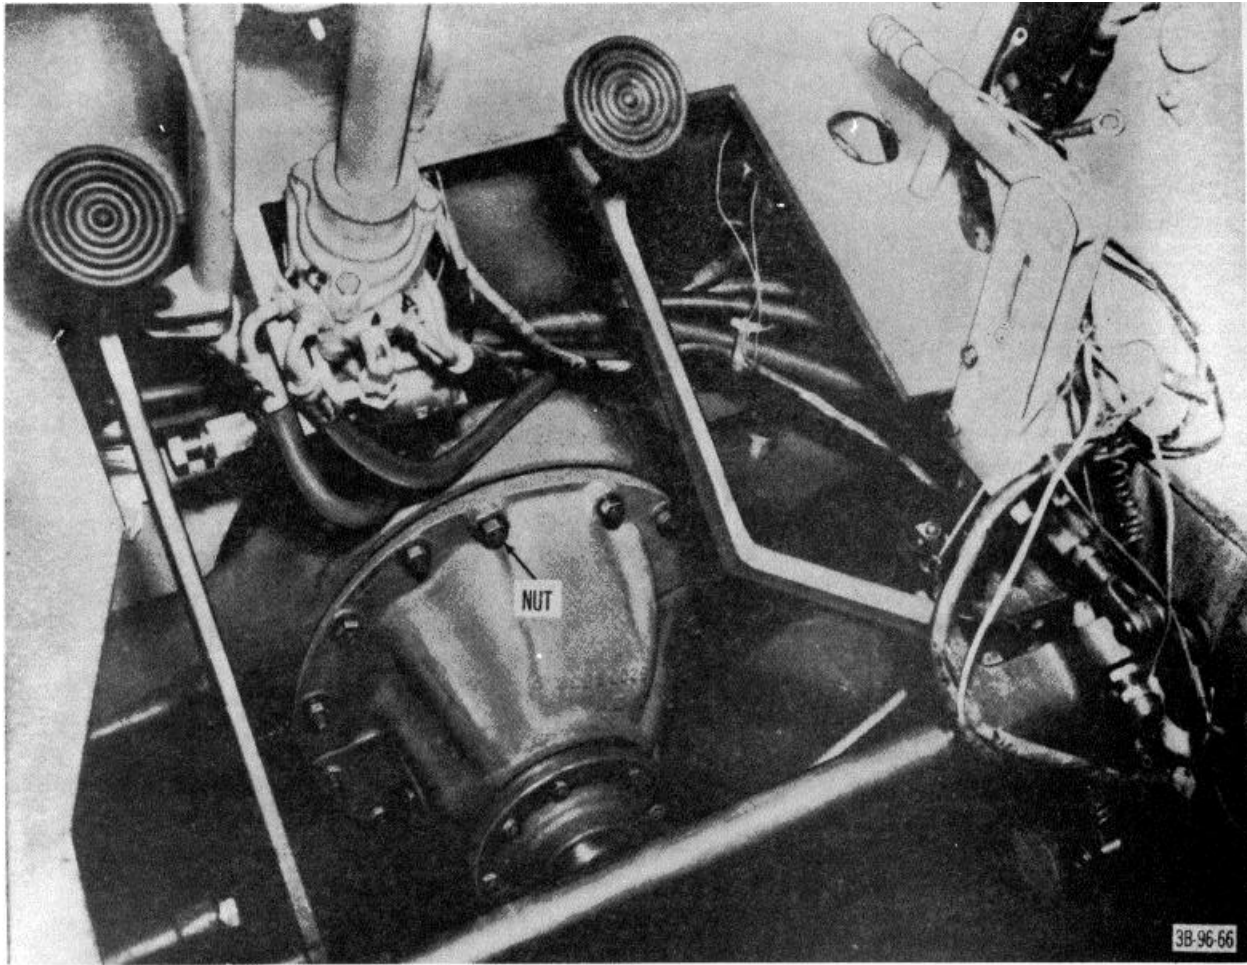

Figure 78. Drive axle and differential and carrier assembly, installed on truck.
- (1) Drain the differential.
- (2) Remove screws and lock plate and remove drive shaft from the truck.
- (3) Remove the left and right axle shaft (4) Remove nuts and fiat washers that secure the differential assembly to the axle housing (fig. 78) and remove the differential carrier assembly from the axle housing.